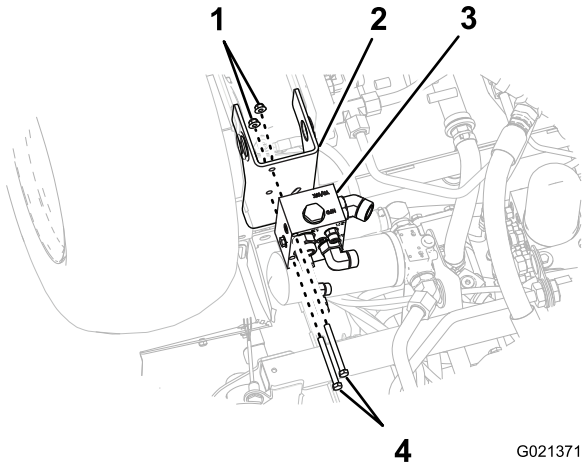

Figure 9
1. Align the holes in the flow-divider manifold with the holes in the chassis bracket (Figure 9).
2. Secure the flow-divider manifold to the chassis bracket with the 2 hex-head bolts and 2 flange nuts (Figure 9).